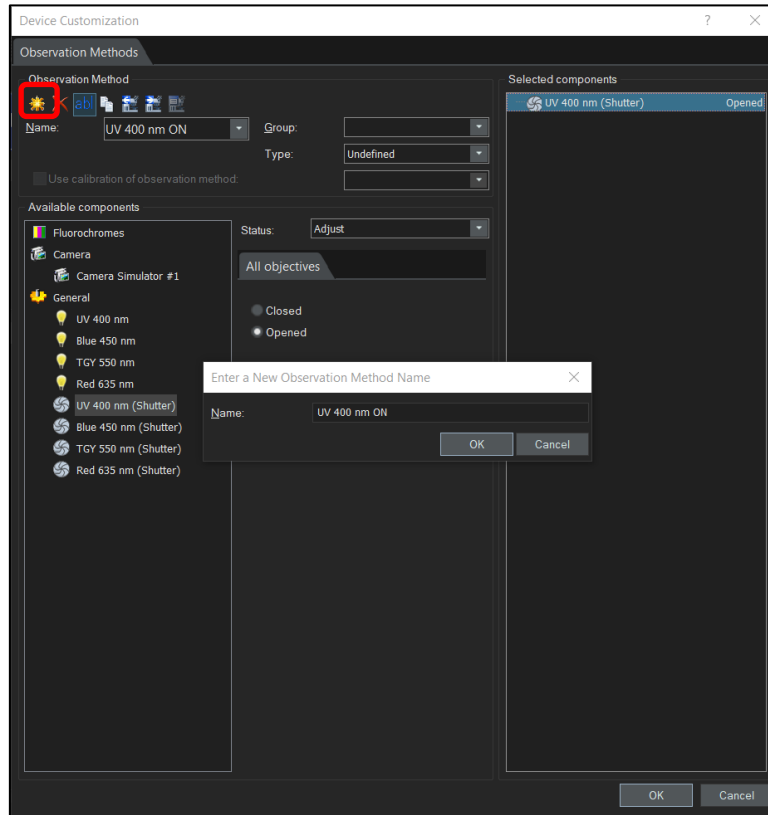

Figure 7: Create a new Observation Method (red box) and enter a name
2. Create a new observation method and enter a name, for example 'UV 400 nm ON' (Figure 7).
- Create a new Observation Method as shown in Figure 7. We will name this 'UV 400 nm Acquisition'.